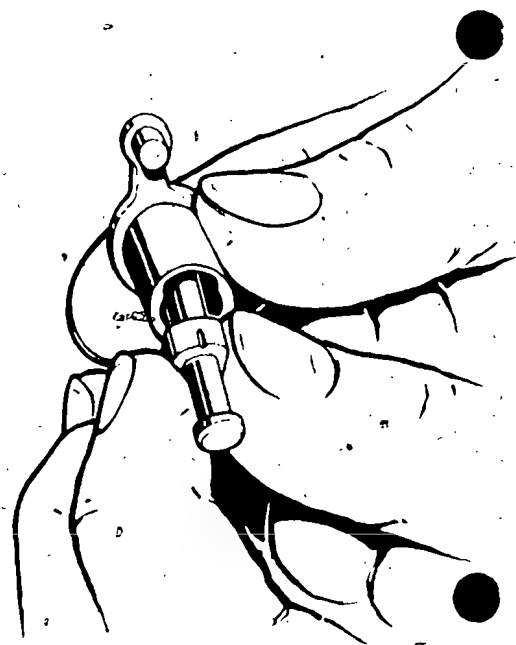

Fig. 9: Proper way of introducing plunger vane into control sleeve (Notch aligned with control lever)
6. Tilt pump into upside down position. Turn control sleeve (13) so that its lever points forwards. Now place bottom spring support (10) on pump plunger (14) and immerse plunger once more in test oil. Carefully introduce plunger into barrel by hand so that the edge does not become damaged. The vane of the pump plunger must be introduced into the control sleeve in such a way that the marking on the vane points forwards, that is in the direction of the control sleeve lever (Fig. 9 illustrates this in the disassembled condition for the sake of clarity). By carefully pressing on the plunger, check whether the plunger lug engages properly in the control sleeve.